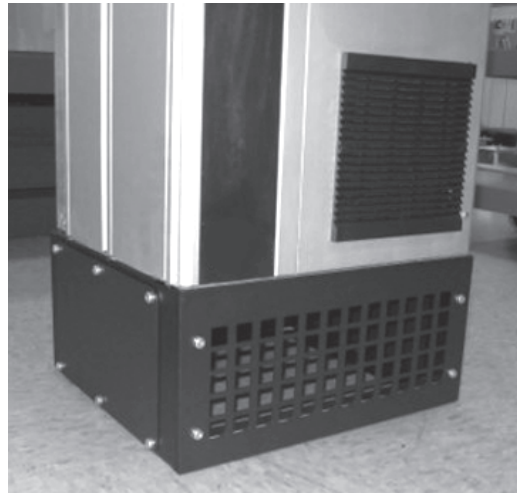

Fig. 7 CUE on a pedestal
4. Mount the CUE on the pedestal using the enclosed screws. See fig. 7.